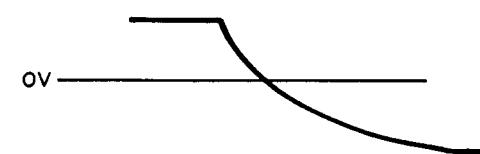

Fig. 7-4 Voltage at ⑯ terminal when FS1 = 0 → 1
III \$03 FS1 becomes 1 from the status described above and the current source of +60μA is disconnected. Then, the CR's charge/discharge circuit is formed and the voltage at ⑯ terminal decreases as the time elapses as shown in Fig. 7-4.